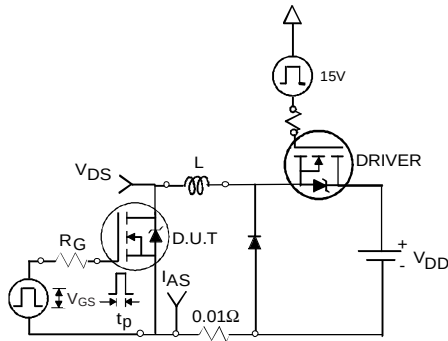

Fig 12a. Unclamped Inductive Test Circuit
- ② Limited by T_{Jmax} , starting $T_J = 25^\circ\text{C}$, $L = 0.077mH$, $R_G = 25\Omega$, $I_{AS} = 51A$, $V_{GS} = 10V$. Part not recommended for use above this value.
- ③ $I_{SD} \leq 51A$, $di/dt \leq 260A/\mu s$, $V_{DD} \leq V_{(BR)DSS}$, $T_J \leq 175^\circ\text{C}$.
- ④ Pulse width $\leq 1.0ms$; duty cycle $\leq 2\%$.
- ⑤ $C_{oss\text{ eff.}}$ is a fixed capacitance that gives the same charging time as C_{oss} while V_{DS} is rising from 0 to 80% V_{DSS} .
- ⑥ Limited by T_{Jmax} , see Fig.12a, 12b, 15, 16 for typical repetitive avalanche performance.
- ⑦ This value determined from sample failure population. 100% tested to this value in production.
- ⑧ This is applied to D²Pak, when mounted on 1" square PCB (FR-4 or G-10 Material). For recommended footprint and soldering techniques refer to application note #AN-994.
3. Equation below based on circuit and waveforms shown in Figures 12a, 12b.